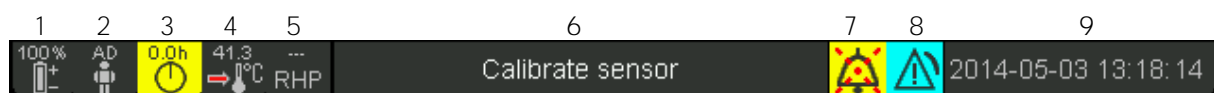

Figure 8 The Status Bar
Note: The 'Patient Info' is also duplicated in the SDM's main menu (Table 36) and - if no Status Message has to be displayed - in the SDM's status bar (Figure 8) enclosed in "["and"]".
<p>Example of a Menu screen</p>	<p>A blue (or yellow), underlying bar highlights the selected sub-menu, menu parameter or function.</p> <p>Current value/alarm limits of monitored parameters (except for PO2) are displayed on the right and the 'Status Bar' (Figure 8) with Status Message and Status Icons is located in the bottom.</p>
-  **Note:** The Status Bar (Figure 8) and the visual alarm signals provided therein are not displayed on the 'Review Trend Data Screen' (Figure 11), the 'Trend Data Statistics Screen' (Figure 12), the 'V-Check Results Screen' (Figure 17) and the 'Ready for use' screen (4.2.4).
The Status Bar (Figure 8) is located at the bottom of all 'Measurement' screens (4.2.3), of all 'Menu' screens (4.2.5) and of the 'Calibration' screen (4.2.4).
On the left side of the Status Bar (Figure 8), the following five Status Icons are displayed:
The 'Alarm Status Icon' in the Status Bar (Figure 8) meets the requirements of IEC 60601-1-8 (Table 2) and indicates the priority of the highest priority alarm condition. If two or more alarm conditions occur at the same time, it indicates the highest currently active alarm priority.